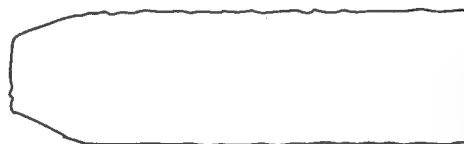

Fig. M7
3. If the envelope is as shown in Fig. M7, adjust the height of Guide Roller [2] (Refer to Fig. M3) so that the waveform looks like the one shown in Fig. M9.